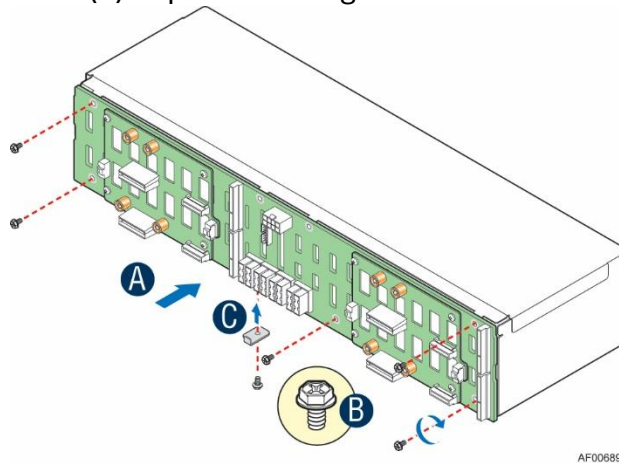

Figure 54. Installing the SAS/PCIe* SFF Combo 24 x 2.5" hot swap backplane
1. Attach the backplane board to the drive cage (A), fix the backplane board with the five screws (B), and install the bracket with the screw (C) as pictured in Figure 54.